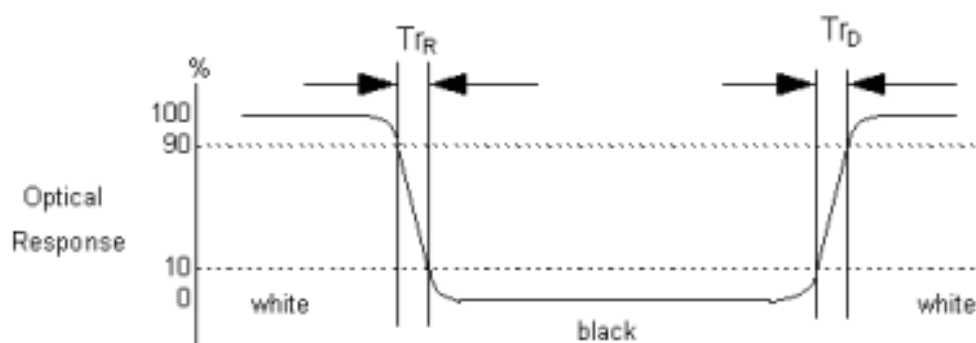

Fig.4-3 Response time
4. Response time is the time required for the display to transition from white(L_{255}) to black(L_0) (Rise Time, $Tr_R = Tr$) and from black(L_0) to white(L_{255}) (Decay Time, $Tr_D = Tf$). For additional information see FIG4-3.